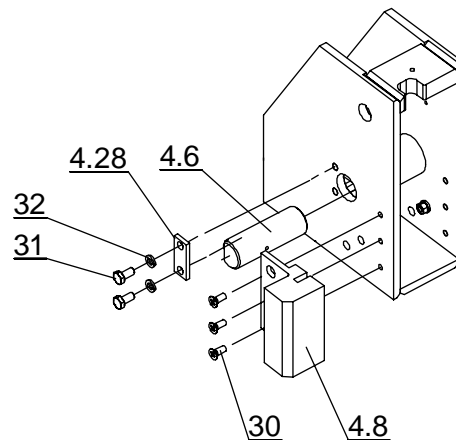

Figure 2-7. Cable Installation through Crossbeams
Install cables through crossbeams as follows. Refer to figure 2-7:
First install Cross Beam Positioning Blocks (item 4.8 as shown in figure 2-7) on crossbeams with M8×25 Screws (item 13 in parts listing). Only install one guide on each side of the crossbeam or you will NOT be able to fit inside the column.
1. Mount the control post in the position determined in paragraph 2.4.1 (Plan Installation Layout). Move column towards yoke until the slider is barely inside the column. Install slider on opposite side at this time, see figure 2-7.